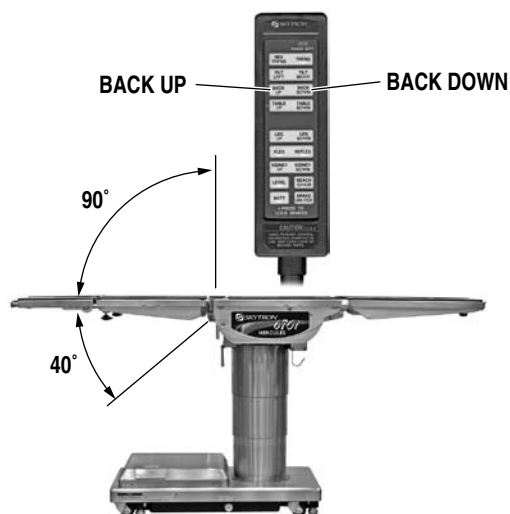

Figure 2-8. Back Section Positioning
d. Back Section. To raise the back section, press the BACK UP button (figure 2-8). The back section will raise up to 90° above horizontal. To lower the back section, press the BACK DOWN button. The back section will go down to 40° below horizontal.